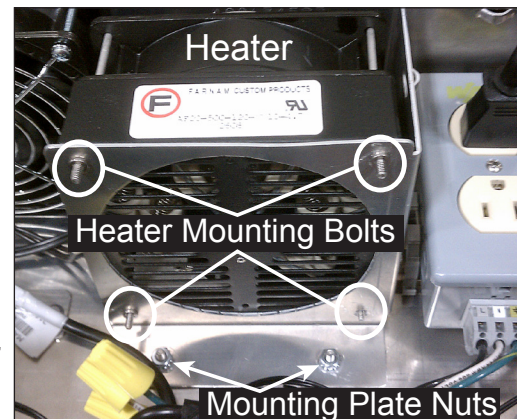

Figure 21: ISP Enclosure Heater Assembly
2. Using the nut driver, loosen and remove the mounting plate nuts. Refer to **Figure 21**.